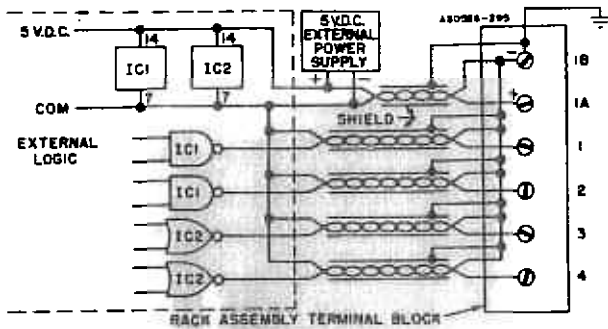

Figure 1 - Typical Wiring
Figure 1 illustrates the typical wiring for the CIM-151 TTL input module. Each input module is capable of being connected to a separate voltage supply. If only one voltage supply is
- The polarity of the wires connected to the rack assembly terminals A (+) and B (-) must be as indicated or damage to the Module will occur (Figure 1).
- The input common terminal on the rack assembly should be connected to the rack chassis ground to minimize noise susceptibility. Each individual cable shield must also be connected to the common terminal B on the rack. The other end of the shield must be left unconnected (Figure 1).